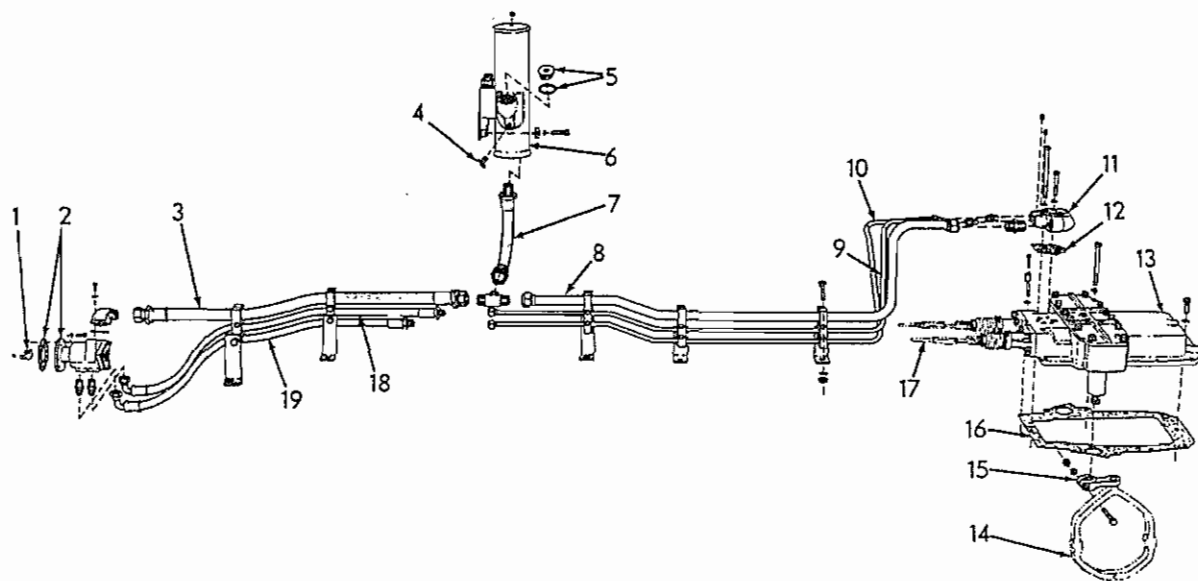
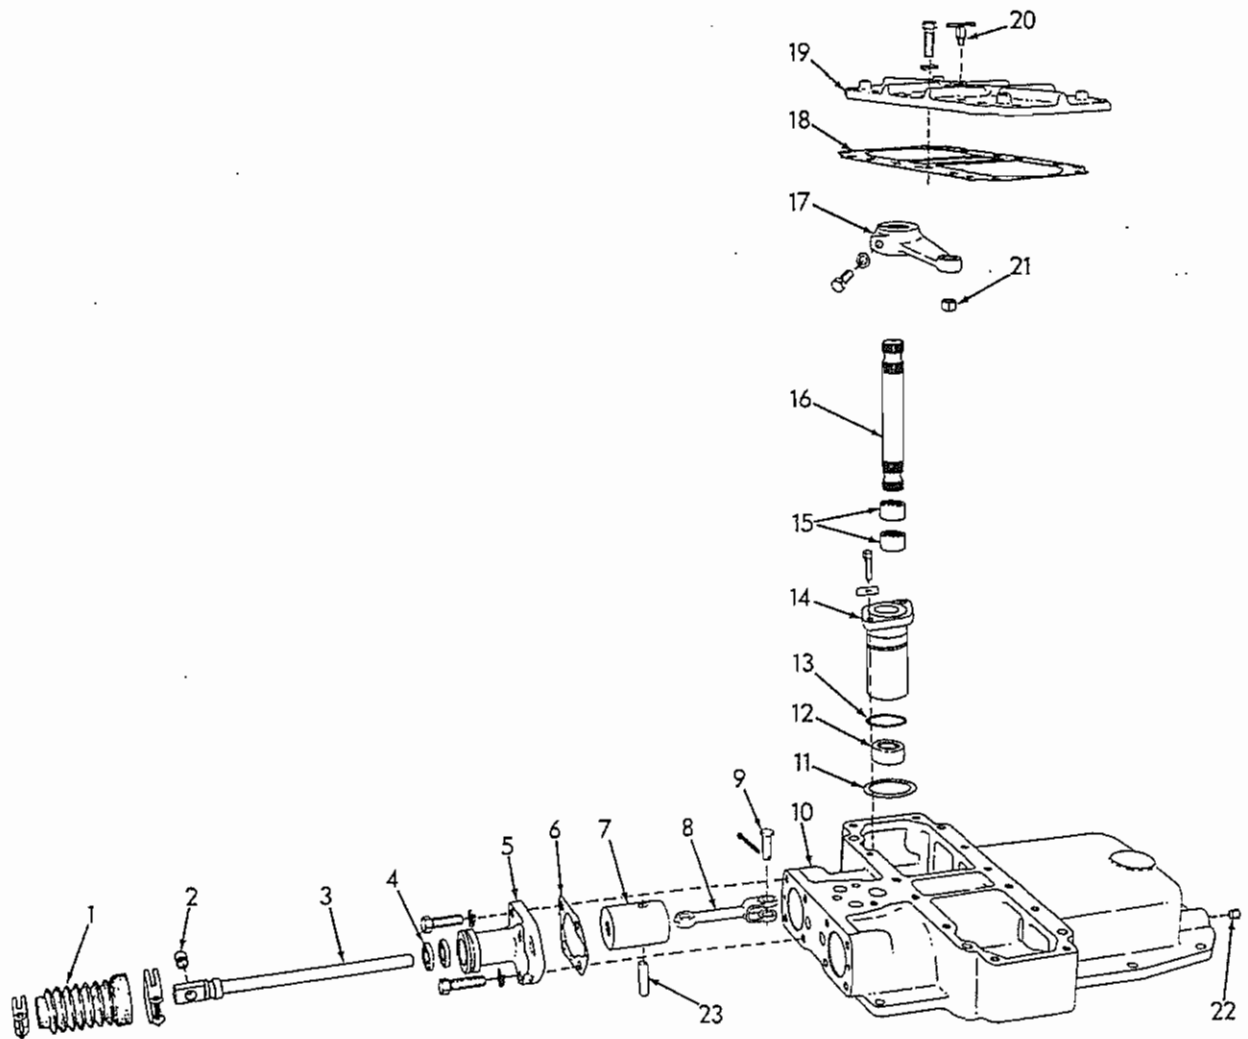

Fig. 1 -- Steering Hydraulic System (HD11, eff. S/N 6069 and up)
Fig. 2 -- Hydraulic Control Valve Parts
Steering hydraulic system, Fig. 1, consists of control valve, oil pump, oil reservoir, and necessary lines; system provides power assist to disengage steering clutches and is controlled by mechanical linkage activated by operator. Hydraulic system pressure is non-adjustable; system is designed with proper "built-in" operating pressure to disengage steering clutches.
- c. Disconnect hydraulic lines and control rods; remove manifold, Fig. 1 (11).
- d. Remove control valve attaching capscrews and clutch compartment covers; loosen actuating levers, Fig. 1 (15) from actuating
Disassemble valve as shown in Fig. 2; refer to following notes:
- a. Do not remove piston pin, Fig. 2 (23), unless piston or connecting rod is to be replaced.
- b. Remove o-ring, Fig. 2 (13), before removing retainer (14).
- a. Press actuating shaft top bearing, Fig. 2 (15) into retainer (14), 1/4" below top surface of retainer; press bottom bearing into retainer (from bottom) until flush with bearing bore; install new seal (12) into seal bore of retainer (lip toward bearing).
- b. Position new retainer gaskets, Fig. 2 (11); install and secure retainers. Place new O-
- d. Attach connecting rod, Fig. 2 (8) to piston
- e. Press new seals, Fig. 2 (4) in spool brackets (lip of inner seal facing in, lip of outer seal facing out); position new bracket gaskets on housing (use gasket cement on housing and brackets) and secure brackets to housing .
Install oil manifold, Fig. 1 (11) and new gasket (12) in position on top of manifold (coat both sides of gasket with gasket cement); connect pressure and return lines to manifold.
Loosen vent cock, Fig. 2 (20) and fill system with specified oil through reservoir filler plug, Fig. 1 (5); install seat assembly and fuel tank. Recheck oil level in reservoir after engine has run a few minutes.
- a. Clean pump and surrounding area; disconnect suction and pressure lines, Fig. 1; remove pump and drive coupling.